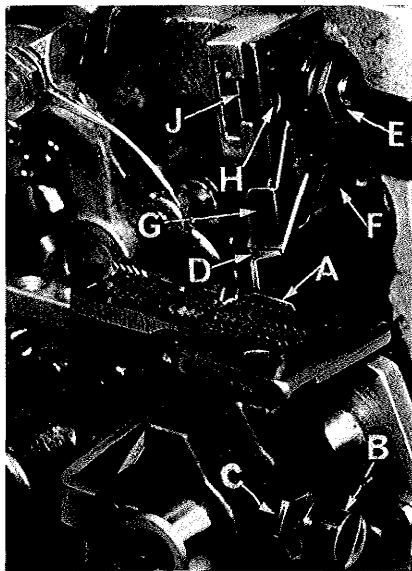

Fig. 14
Replace lower knife holder assembly. Lower knife (A, Fig. 14) should be set with cutting edge flush with throat plate surface. Adjustments are made with hexagonal head screw which holds lower knife. Lower knife is spring pressed against upper knife, so no lateral adjustment is necessary when width of trim is changed.
Replace upper knife assembly. Clamp upper knife (D, Fig. 14) in position, setting nut (E) to hold clamp (F) in its most clockwise position against upper knife. Upper knife chain guard (G) should be positioned so that the guarding section is approximately $1/64$ inch (.40 mm) behind the cutting edge and in contact with the top surface of the upper knife.